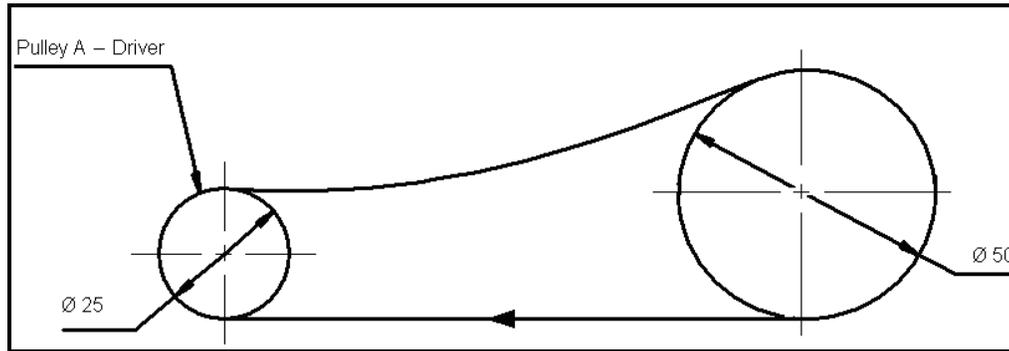

FIGURE 1.7
1.17 What is the velocity ratio of the pulley system shown in FIGURE 1.7 if pulley A is the driver?